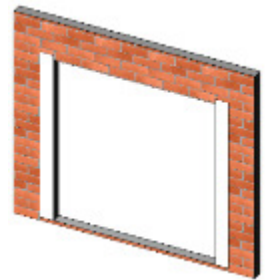

Figure 14:
2. At each jamb, embed the flashing paper into the sealant onto mounting flange and fasten into place. The flashing paper should be cut sufficiently long enough to extend at least 3" past the weep-screed or diado flashing and at least 6 inches above the head of the window (Figure 14).